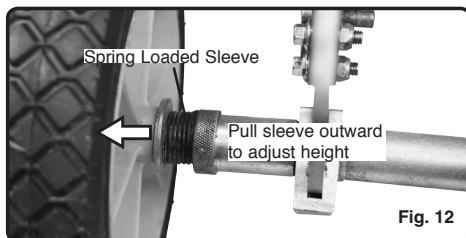

Fig. 12
1. Slide the spring loaded sleeve toward the wheel. See Figure 12.